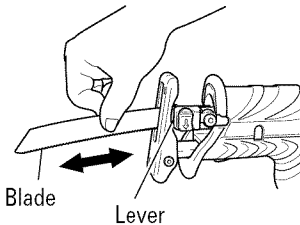

Fig. 7
- (5) Pull the back of the saw blade two or three times by hand and check that the blade is securely mounted. When pulling the blade, you will know it is properly mounted if it clicks and the lever moves slightly. (Fig. 7)